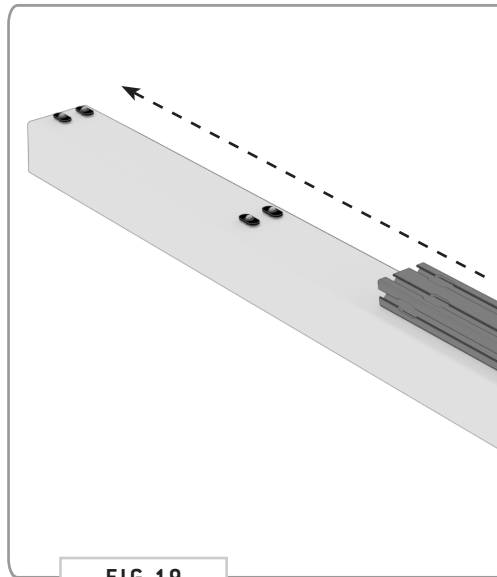

FIG 19
**6.2 Crossbar Install:** Now, slide the Crossbar onto the Rear Spoiler. You'll have to straighten each T-Nut as you go to get it to feed into the Crossbar correctly (FIG 19). After sliding the Rear Spoiler and Crossbar together, tighten all fasteners.